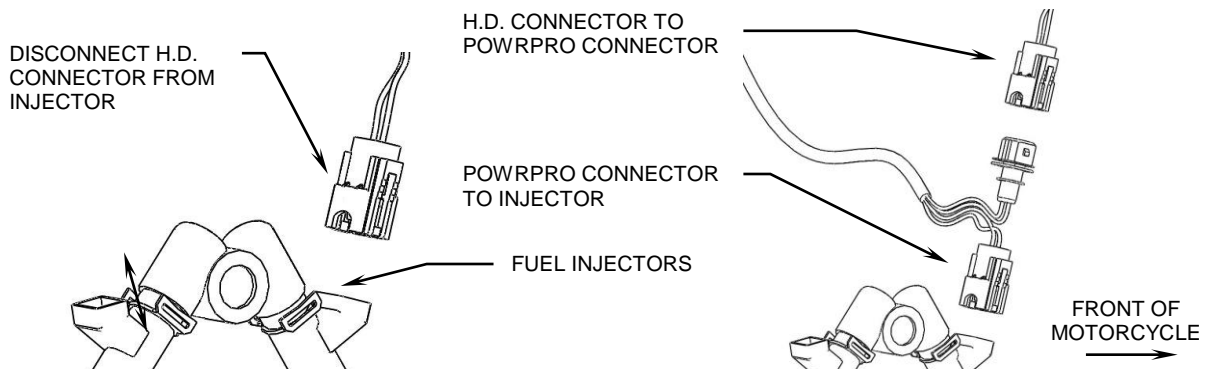

FIGURE 1
2. Locate the factory connector on each fuel injector. Depress the clips on the connector and pull the connector free and move it out of the way, see Figure 1. **Note:** A pair of needle nose pliers and a long flat blade screwdriver helps with this job.
4. Attach the pair of Powrpro module's injector plugs labeled "FRONT" to the front injector. Take the original H.D. connector and insert the corresponding Powrpro connector into it, refer to Figure 1.
5. Attach the Powrpro module's remaining injector plugs labeled "REAR" onto the rear injector. Then take the original H.D. connector and insert the corresponding Powrpro connector into it, refer to Figure 1.